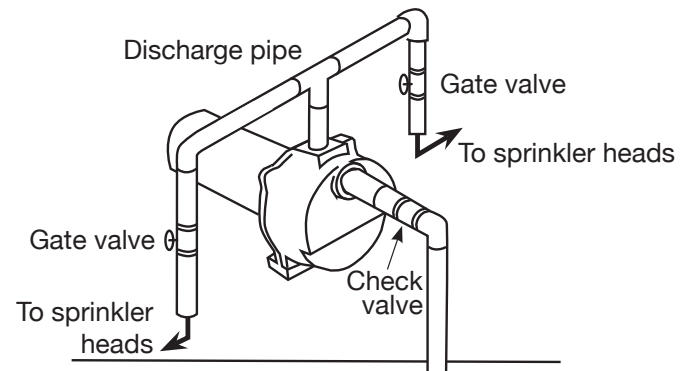

Figure 2
Driven Point Installation-Figure 2
1. Connect suction pipe to drive point (Fig. 2). Keep horizontal pipe run as short as possible. Use Teflon tape on male pipe threads. Multiple well points may be necessary to provide sufficient water to pump.